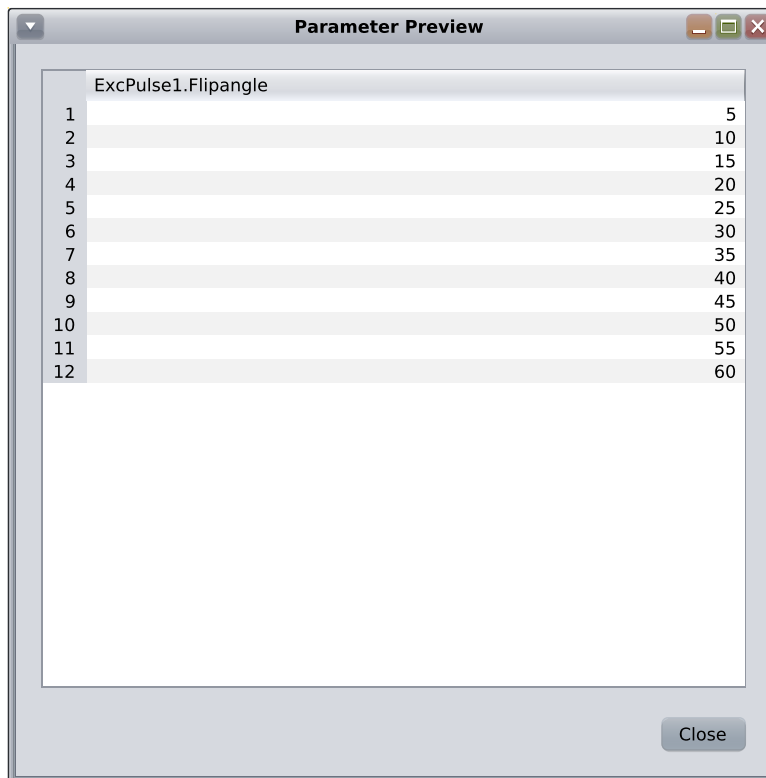

Figure 1.11: Dialog Parameter Preview
- A Parameter Preview dialog as shown in [Figure 1.11 \[p. 39\]](#) will be opened. The preview shows all parameter values resulting from the provided value specification. For a comma separated list these are simply the entered values. For a loop or an expression specification the values are calculated from the specification.